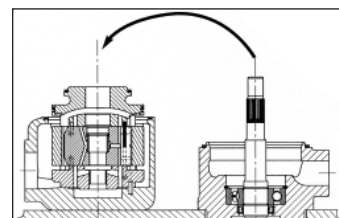

Figure 48
8. Assemble the front cap ASSY on the housing and cartridge ASSY (**Fig. 48**).